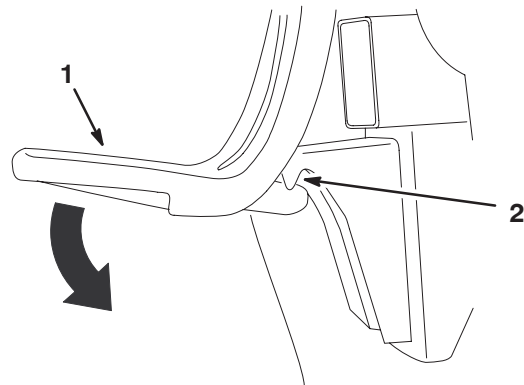

Figure 8
6. Push down on bagger latch until it locks into place (Fig. 8).